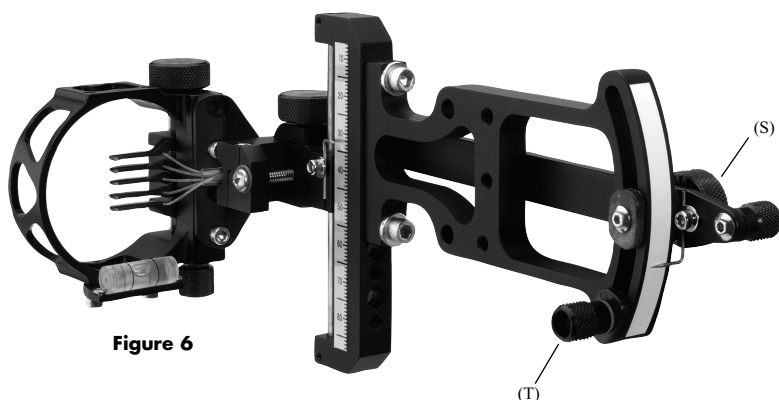

Figure 6
2. Remove the 2 level holder screws (D) (#5-40 socket head cap screws) from the pin guard and reinstall them with the level and holder on the opposite side.
3. Remove stop knob (T)—see Figure 6 on page (7)—and stop assembly and reinstall on opposite side.